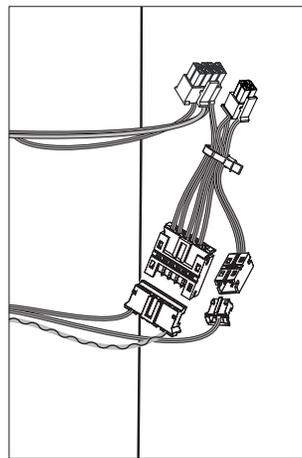

Fig. 6b
2. Connect 6- and 2-pin connectors from device to 6- and 2-pin connectors on reader harness (Fig. 6b, c).
4. Install the remaining three (3) mounting screws: 8-32 x 5/8 Fillister for metal doors or #8 x 5/8 self-tapping Fillister for wood doors.
5. Connect 6- and 2-pin connectors from device to 6- and 2-pin connectors on reader harness (Fig. 6b, c in previous step).